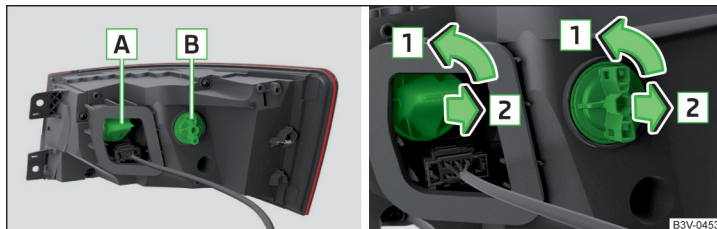

Fig. 365 Tail light / bulb replacement
- › Turn the holder with the bulb **A** or **B** » Fig. 365 in the direction of the arrow **1**.